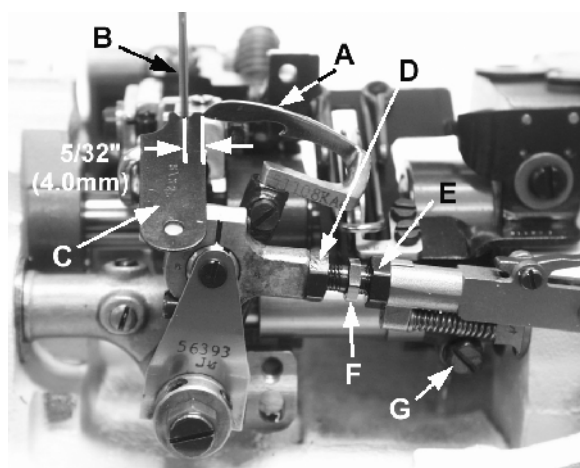
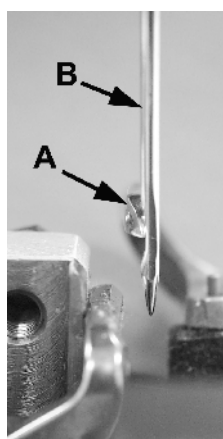

Fig 6
Fig 7
Insert a new needle, type and size specified. Looper gauge is 5/32 inch (4.0mm) which is the distance from point of looper (A, Fig. 6) to centerline of needle (B) when looper is at extreme right end of its travel. Looper gauge No. 21225-5/32 (C) is available for this setting. Adjustment can be made by loosening nut (D), (it has a left hand thread) and nut (E); turn connecting rod (F) as required to attain specified dimension. Hold connecting rod in position and tighten nut (E), then nut (D). NOTE: Be sure that the left ball joint is in a vertical position and does not bind after adjustment.
While turning handwheel in operating direction and the looper (A, Fig. 7) moves to the left, its point should be set to pass the rear of the needle (B) with .003" to .005" (.08 to .13mm) clearance. Adjustment can be made by loosening screw (G, Fig. 6), and moving the looper front to back to obtain the above clearance. Tighten screw (G) after adjustment has been made and recheck movement of looper.